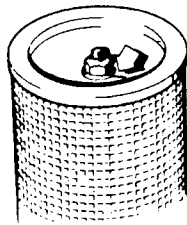

Fig. 3
3. Make a mark on nut and filter element and then tighten the nut 1 turn. (Fig. 3.)